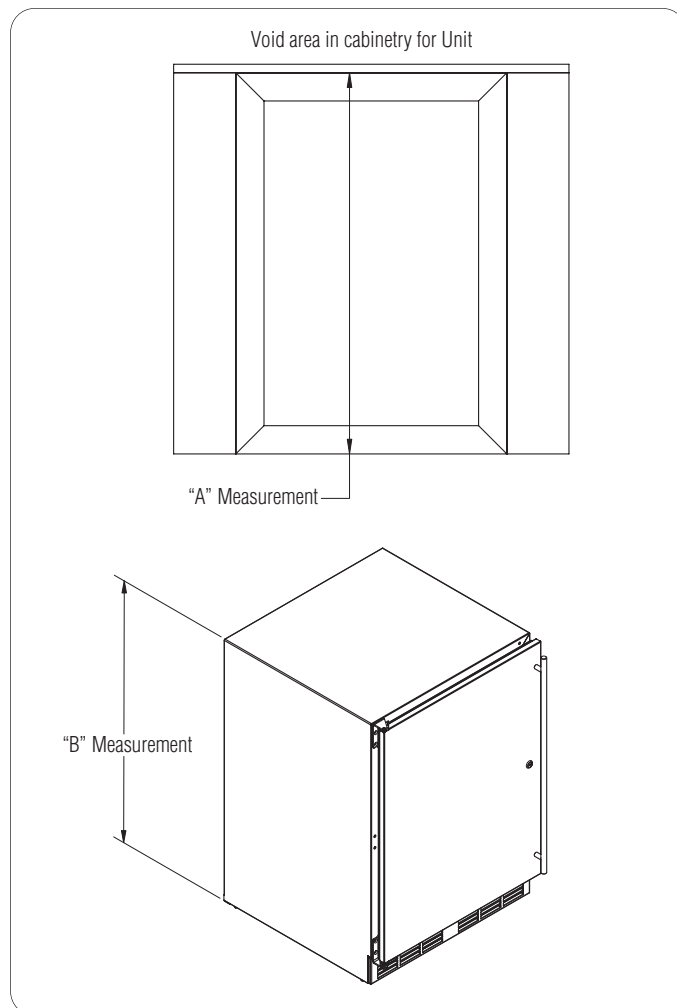

Figure 3. Levelling
3. If all surfaces are level, refer to Figure 3 and perform the following: